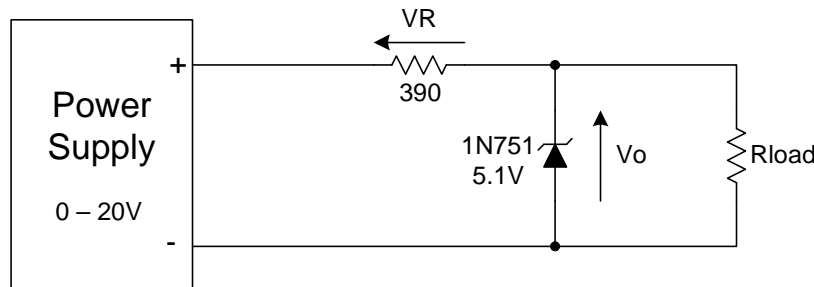

Figure 2: Zener diode shunt regulator
- 2.1 Build the circuit in Figure 2. Do not connect the load resistor until later.